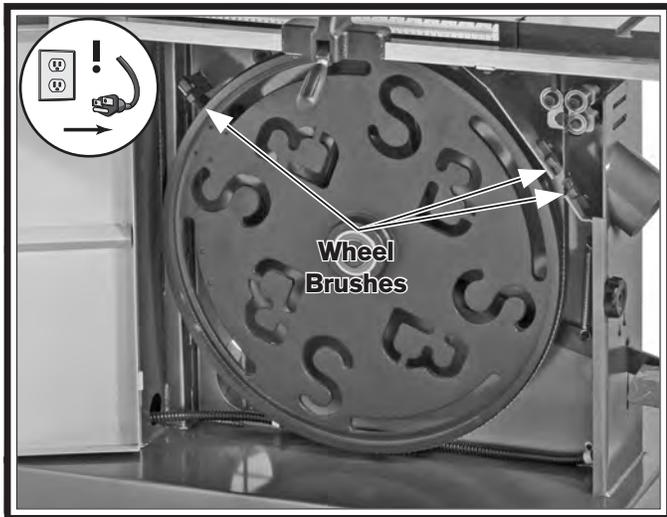

Figure 92. Location of wheel brushes.
The lower wheel has brushes (see **Figure 92**) that are designed to sweep sawdust off the wheel and blade during operation. In order to work properly, the brushes must make firm contact with the wheel and blades.
3. Loosen cap screws and lock nuts that secure wheel brushes in place (see **Figure 92**).